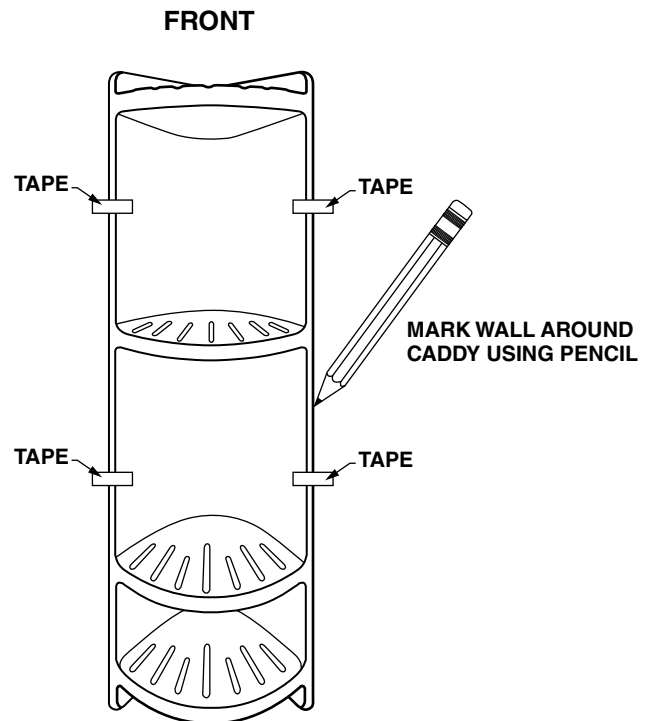

FIGURE 2
- Tape the caddy at the desired location in the corner of the shower to hold in place and mark the walls where caddy is located, then remove the caddy from the corner. See **FIGURE 2**.